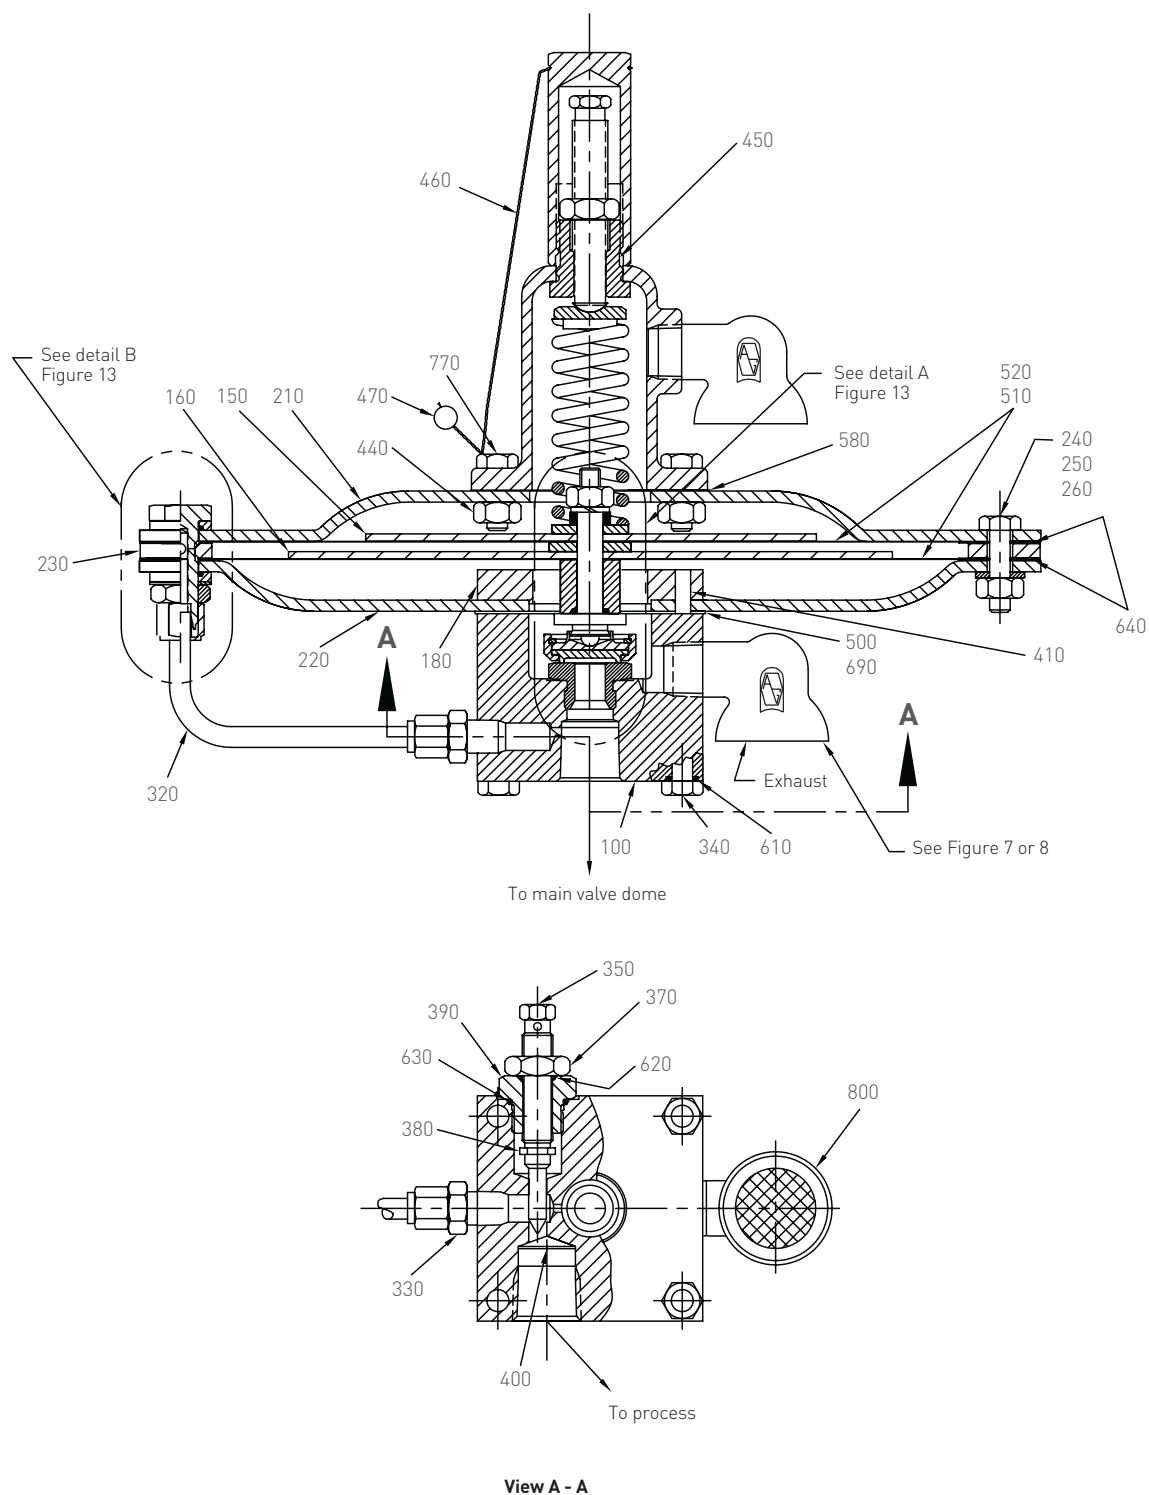

FIGURE 9
3.3 Pilot disassembly for flowing modulating or snap action pilots (Series 91, 93, and 93T) refer to Figures 9 thru 13
PILOT PARTS (FIGURES 9, 10, 11)